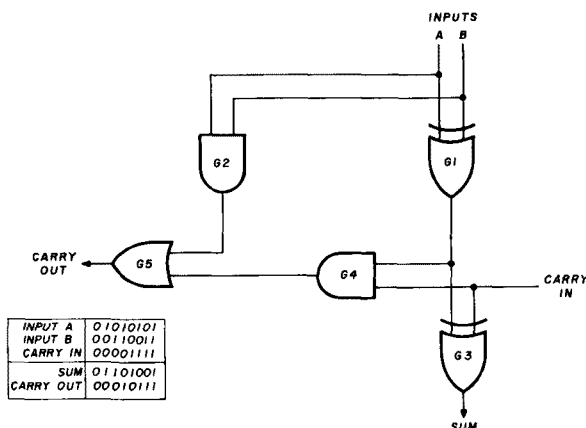

fig. 3. Full adder truth table and schematic.
**Fig. 3** shows a truth table and schematic for a full adder. A full adder has three inputs. A half adder has only two, using gates G1 and G2 only. Both adders provide a sum and carry out.